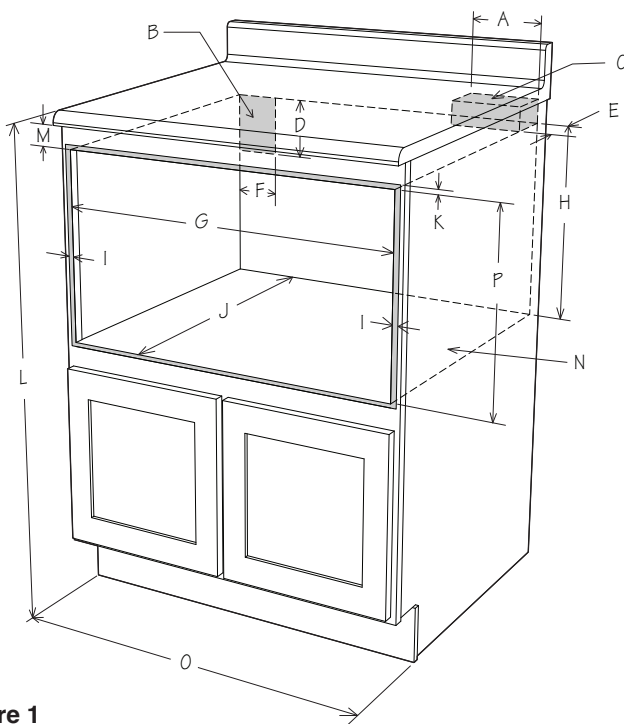

Figure 1
For **SAFETY CONSIDERATIONS** do not install drawer in any combustible cabinetry, which is not in accord with the stated clearances and dimensions on pages 2 - 5. See Figures 1 - 7.
- Dimensions that are shown in Figure 1 must be used. Given dimensions provide minimum clearance. Locate electrical outlet in the shaded area in the upper left-hand corner of the cutout. See Figure 9.
Figures 1 and 2 contain many Microwave Drawer measurements for reference when planning the drawer's location.
To reduce the risk of tipping of the drawer, the Anti-Tip block must be properly installed located 14^{13/16}-inches above the floor on which the Microwave Drawer will sit. The 6-inch Anti-Tip block must be provided by the installer. See Figure 1. The Anti-Tip block prevents serious injury that might result from spilled hot liquids.